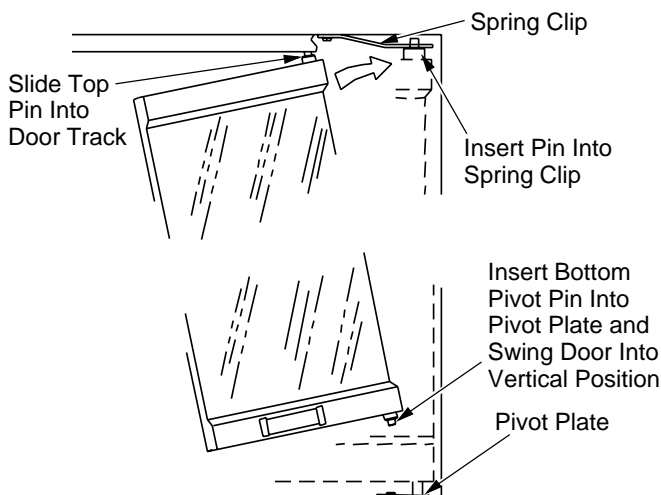

Figure 32 - Installing Optional Glass Door
2. With the handle facing the center of the firebox opening, insert the lower pivot pin on the glass door panel into the hole in pivot plate on the bottom edge of the fireplace opening (see Figure 32).
4. Tilt the door assembly fully vertical until the outer pivot pin snaps into the mounting hole in the upper spring clip (see Figure 32).